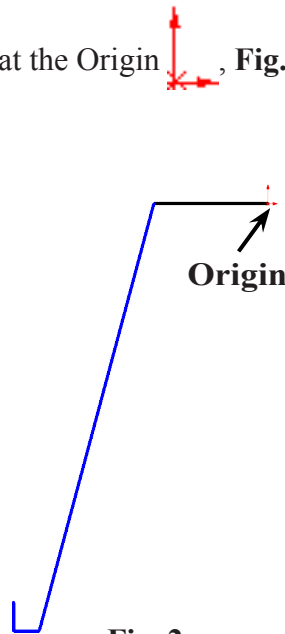

Fig. 2
Step 3. Click **Line**  (L) on the Sketch toolbar.
Step 4. Sketch the wire sweep path starting at the Origin , **Fig. 2**.